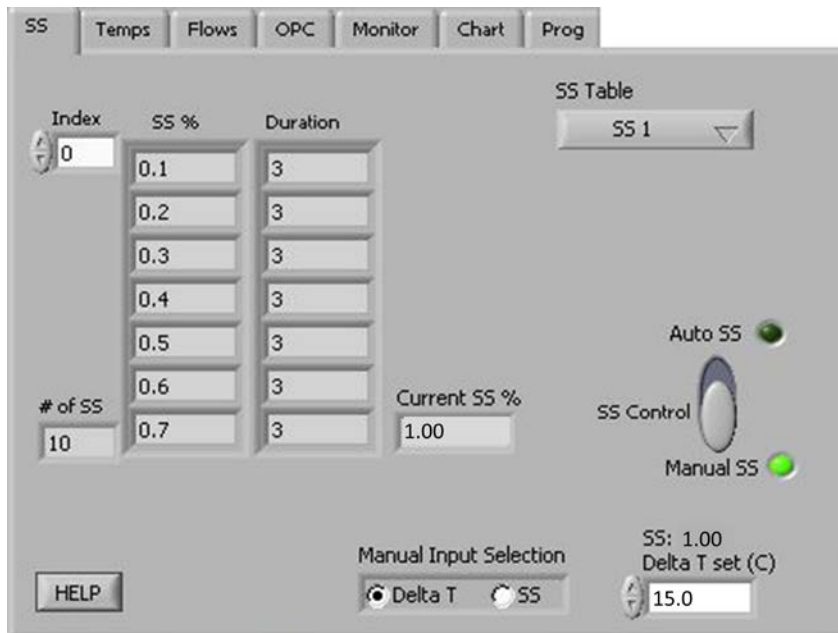

Figure 30: Supersaturation (SS) Settings Tab Display in Manual SS Mode
Note: **Current SS#** and **Seconds until SS change** are not visible when **Manual SS** mode is turned on. See Figure 30.
The **SS Control** switch specifies how supersaturations are set. In **Auto SS** mode, the CCN uses the SS Table to determine **Current SS%**. **Delta T(C)** is selected automatically based on this SS% value. In **Manual SS** mode, the user enters either the supersaturation or **Delta T Set (C)**, which in turn determines the supersaturation. In Manual SS mode, the **Manual Input Selection** radio button (Figure 30, bottom middle) specifies whether the user will enter Delta T Set (C) or enter the supersaturation directly. If the manual input selection is Delta T Set (C), an **SS** indicator will appear above the **Delta T set (C)** control (bottom right), which enables the user to quickly see what SS% the currently selected Delta T Set (C) is equal to. The default value for Delta T Set (C) is the last setting the program was previously running when **Auto SS** mode is switched off. Note that while the SS Table remains visible during **Manual SS** mode, the program is not using it.